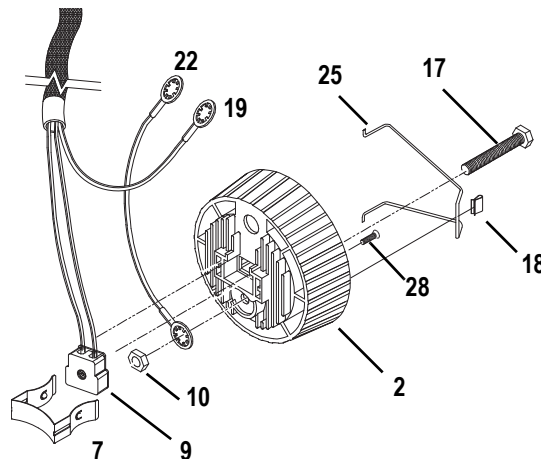

Figure 5
Step 12: Insert the bolt (17) through the light baffle socket casting (2). See Figure 5.
Step 13: Install the green and yellow ground wire assemblies (19 and 22) on the bolt (17) with the prongs on the crimped connectors toward the casting. Run both wires through the indent in the lip around the bolt hole. Secure with nut (10) and tighten securely (6.7 newton meters).
Step 14: Place the socket assembly (9) into the light baffle socket casting (2). Be sure it is well seated.
Step 15: Install the lamp retainer spring (7). The lamp retainer spring secures the socket. Insert the spring one end at a time, making sure the rectangular slot in each side of the spring seats on the corresponding tab in the casting. See Figure 5.